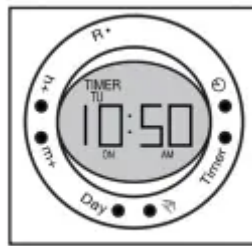

FIG 14
2. Press “day” and “H+” buttons simultaneously. “Timer” flashes in the upper-left portion of the screen to indicate random ON/OFF is activated [FIG 14].